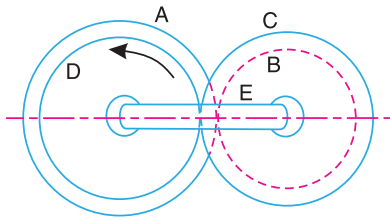

Fig. 13.46
17. An epicyclic gear train, as shown in Fig. 13.46, consists of two sunwheels A and D with 28 and 24 teeth respectively, engaged with a compound planet wheels B and C with 22 and 26 teeth. The sunwheel